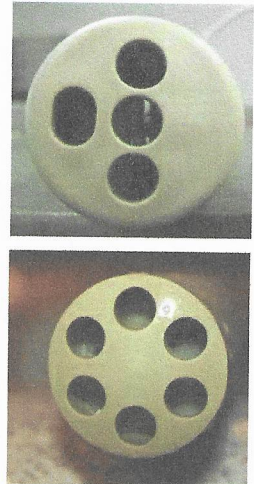

Figure 1
3. Look through end cap holes and check for white scale around the inner channel opening. (Both configurations shown in *Figure 1*)